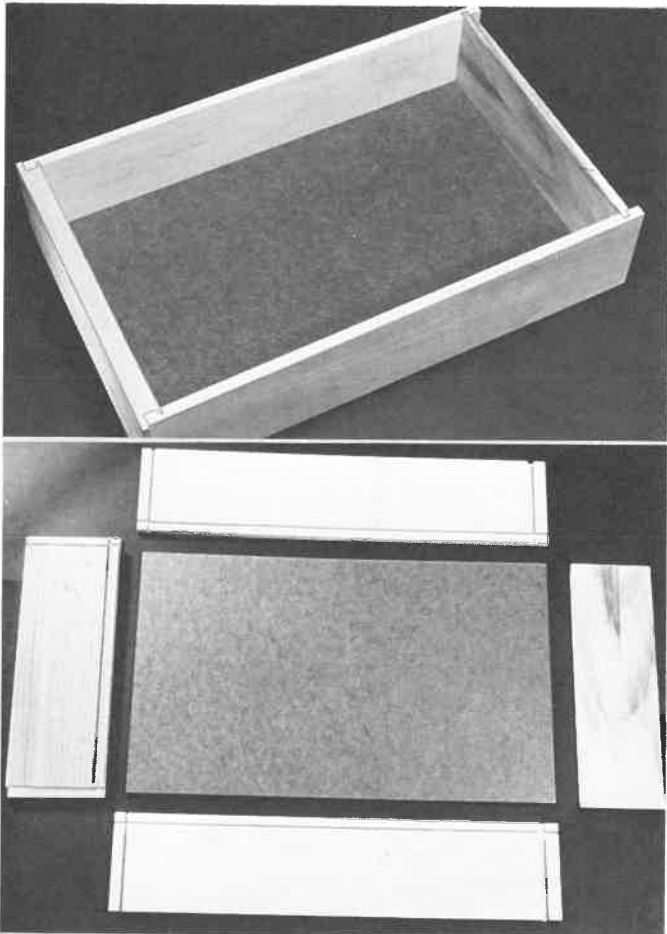

Fig. 22-7. Top. Trial assembly. Bottom. Parts ready to be glued.
9. Trim the bottom to the correct size and make a trial assembly as shown in Fig. 22-7. Make